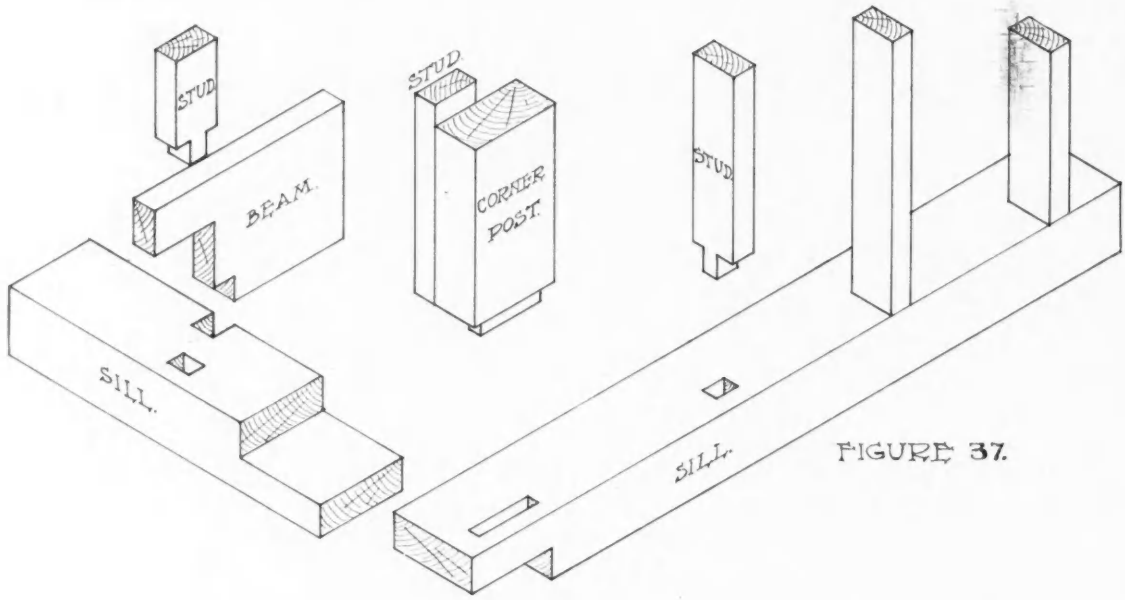

FIGURE 37.
**P**LATE XI illustrates and shows the application of the principal joints used in framing. Starting with the main sill, Fig. 37, the method of jointing at the corners is shown; the joint being known as angle halving. The corner post and studs are mortised into sill. This is done in the best work, the common way being to cut off posts and studs with square ends, and spike to sill and girt. The beams are shown let into the sill.